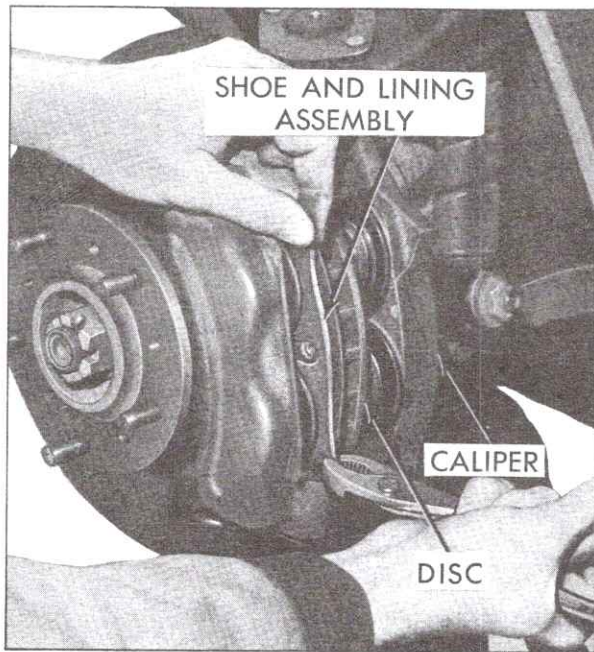

Fig. 5-32 Relining Disc Brakes
5. Using pliers, grasp the tabs on the outer end of the shoe and remove the shoe and lining assembly by pulling straight out, Fig. 5-32.